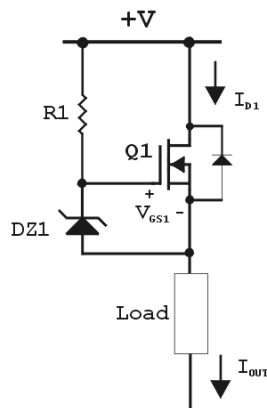

Figure 4: An N-Channel Depletion-mode MOSFET (Q1) as a current source [1]
Figure 4 shows another constant current source with Depletion-mode MOSFET, Q1 and the gate-to-source Zener diode DZ1. The required V_{GS1} will determine the necessary resistor value for R1 using the same formula (2). This design may be useful in higher voltage circuits. The voltage limit on V+ will be determined by the V_{DSS} rating of the devices.